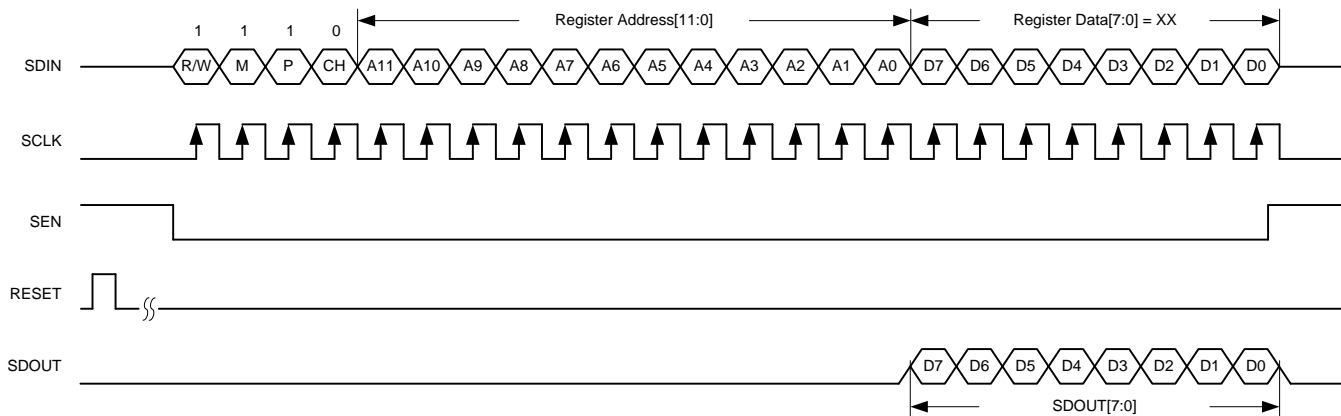

Figure 73. JESD Serial Register Read Timing Diagram
4. Reading back the register content on the SDOOUT pin; see Figure 73. When a page is selected, multiple read backs from the same page can be done.